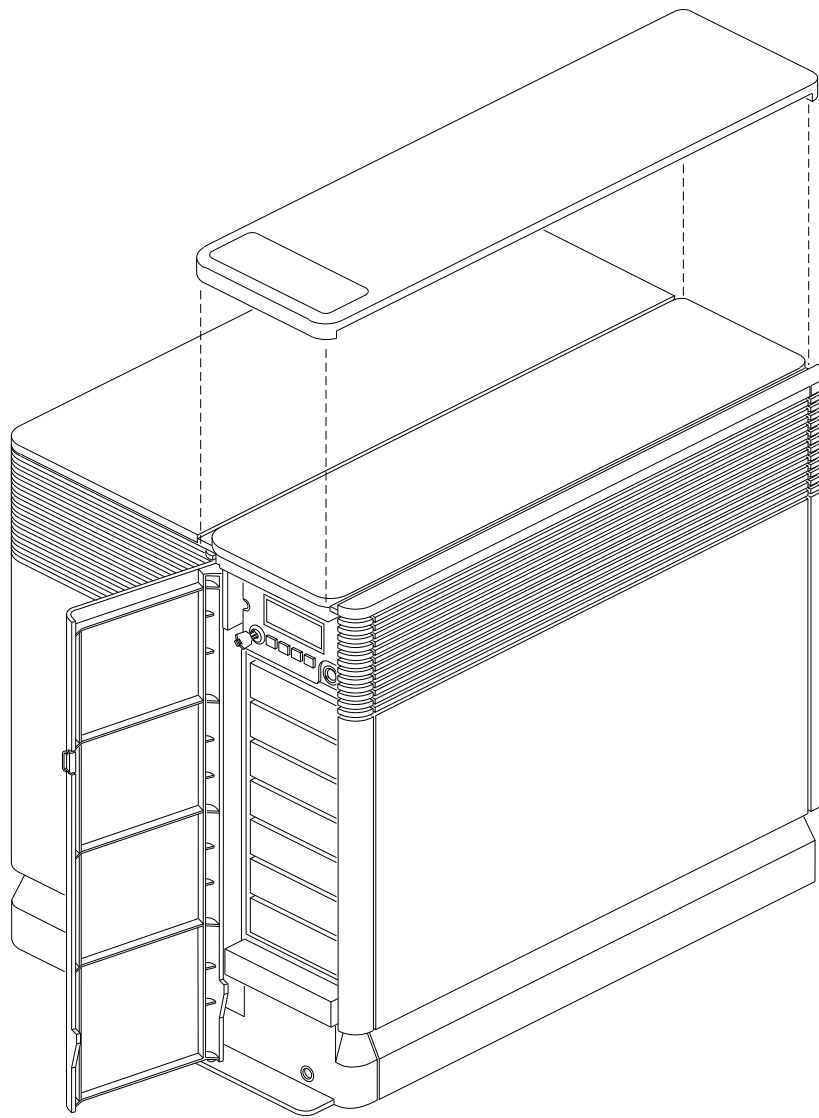

Figure 5-75 Replacing the Top Hat
2. Lift the front edge of the top hat until it clears the top panel (see Figure 5-75).